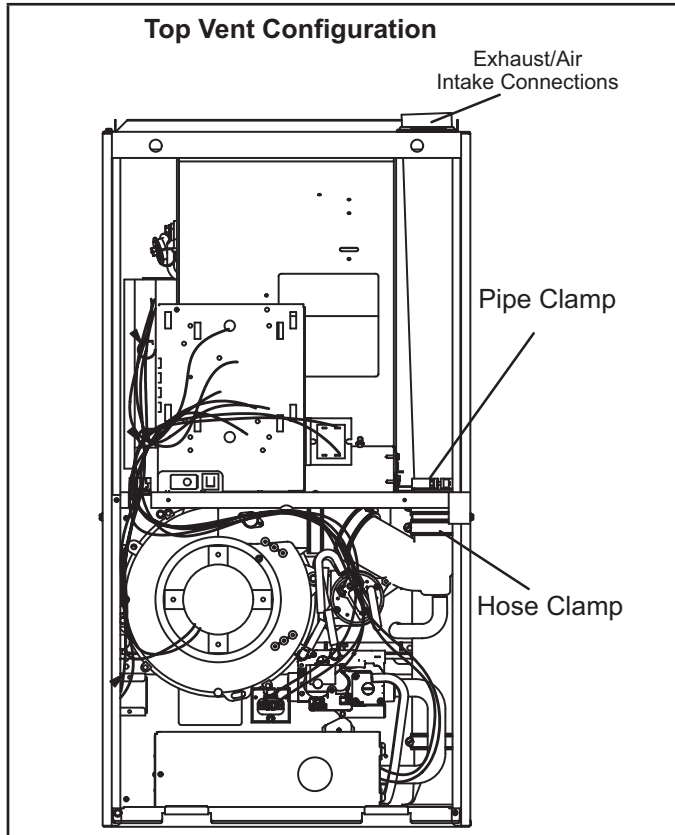
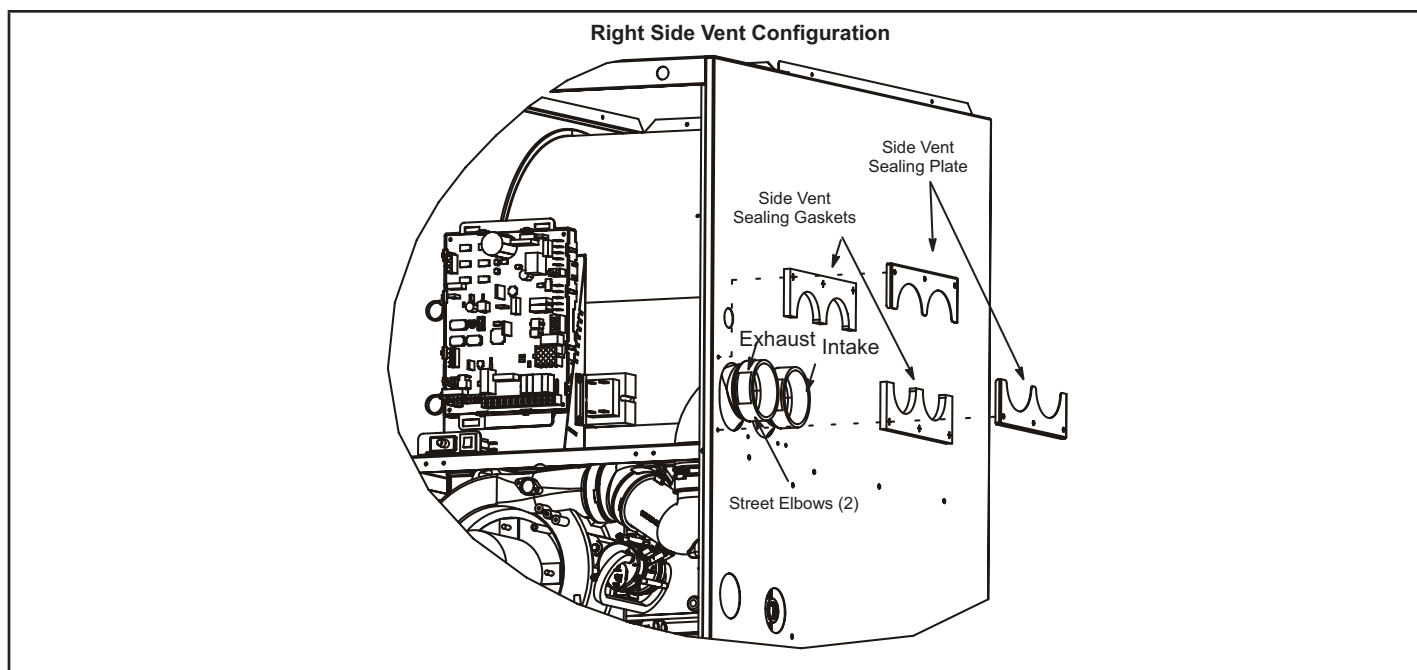

FIGURE 20
FIGURE 23
The EL296DFE is shipped with vent exhaust / air intake connection at the top cap. See FIGURE 20. Using parts provided, the furnace may be field modified to have these connections on the right side of the furnace cabinet. See FIGURE 23 and follow the steps below. For left side venting order kit 87W73.
- 2 - Loosen hose clamps which attach rubber fittings to the white PVC pipes inside the vestibule area. See FIGURE 20.
- 3 - Loosen the clamp which secures the pipes at the blower deck. See figure 20.
- 11 - Peel protective backing from side vent sealing gaskets (2) and apply to side vent sealing plates (2) as shown in FIGURE 23.
- 12 - Install the side vent sealing plates and gaskets on the exterior of the cabinet as shown in FIGURE 23. Secure with six mounting screws (four reused and two provided from bag assembly). Holes are pre-punched in the parts and cabinet, no drilling is required.